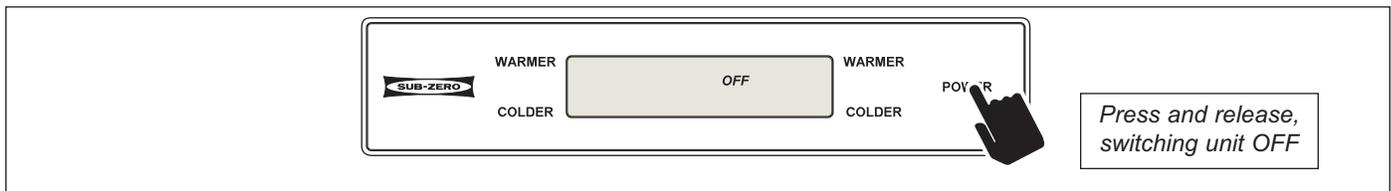
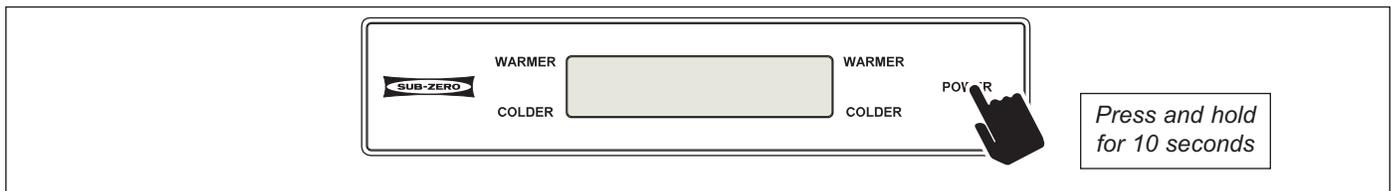

Figure 3-12. To Enter Sabbath Mode, Switch Unit OFF First
Figure 3-13. After Unit is Switched OFF, Press and Hold POWER Key for 10 Seconds
To initiate Sabbath Mode, the unit must first be switched OFF using the POWER key (See Figure 3-12), then press and hold the POWER key for approximately ten (10) seconds, until the LCD and lights switch OFF (See Figure 3-13). To return to normal operation, press and release the POWER key.